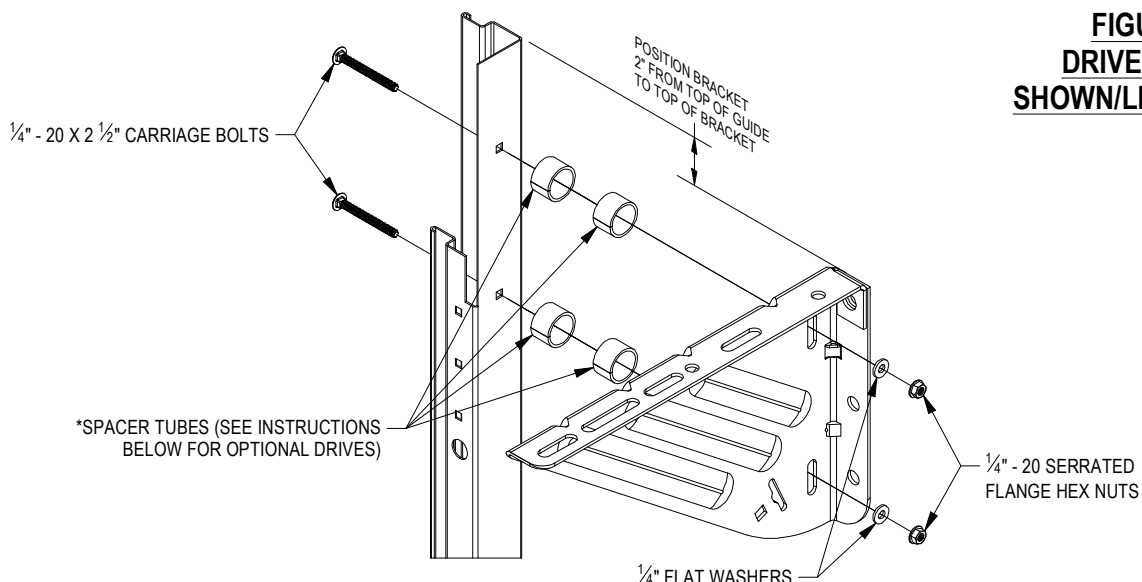

**FIGURE 6:
- Attach Commercial Brackets to guides, locating top surface of bracket 2" below top of guide. Use two (2) $\frac{1}{4}$ " - 20 x $\frac{5}{8}$ " Carriage Bolts, $\frac{1}{4}$ " - 20 Serrated Flange Hex Nuts, and $\frac{1}{4}$ " Flat Washers per bracket for tensioner and the non-tensioner (drive) end for push-up operation. **See Figure 6.**